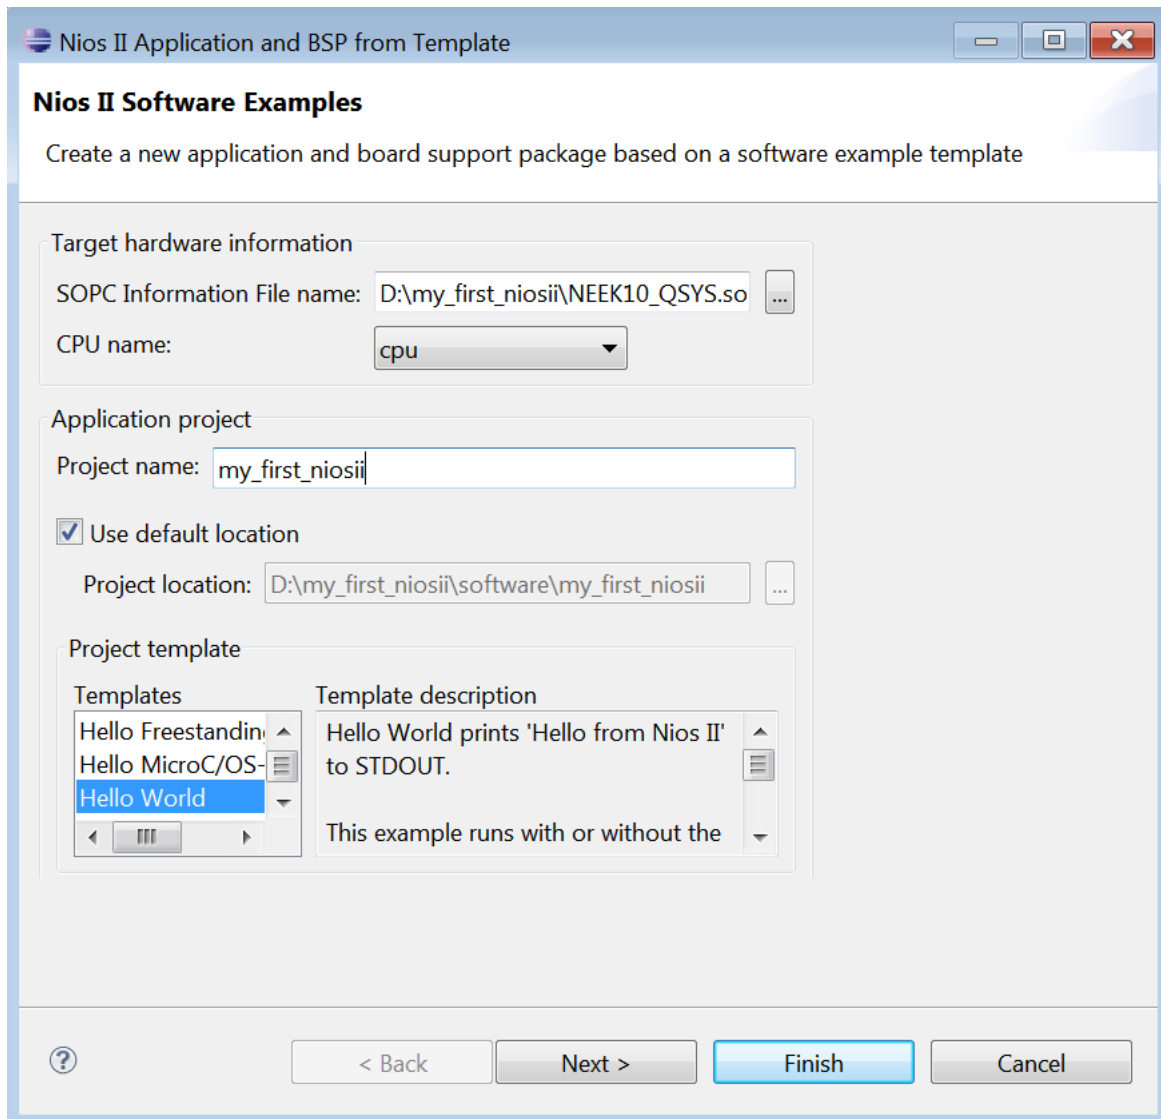

Figure 2-2 Select project template to start creating a new project
4. There are three actions to be performed, as shown in **Figure 2-2**.